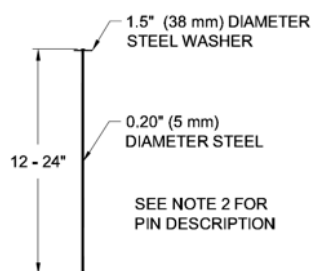

Figure 4: Securing pin
3. Secure **PROPEX** Pyramat with pins in the COS trench. Pins should be made of steel with a 0.20 in (5 mm) minimum diameter, having a 1.5 in (38 mm) diameter washer at the head, and a length between 12 and 24 in (300-600 mm) with sufficient ground penetration to resist pullout (Figure 4). Longer pins may be required for looser soils. Heavier metal stakes may be required in rocky soils. Suggested placement of pins for the COS trench is along the bottom of the trench with pins on 12 in (300 mm) centers. Pins should also be installed on panel edge overlaps in the COS trench.